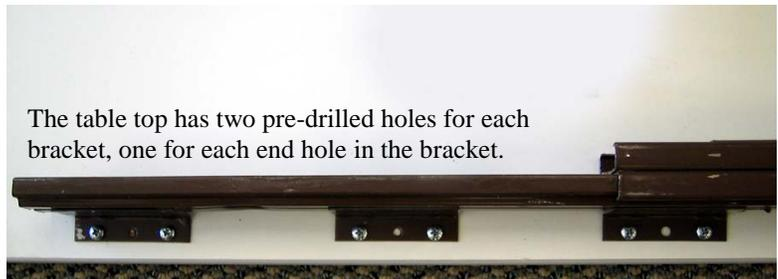

Figure 2
- c) Install the rest of the screws. **Note: 2 screws in each bracket – one on each end the center un-drilled holes can be used if you accidentally strip a screw (Figure 2).**